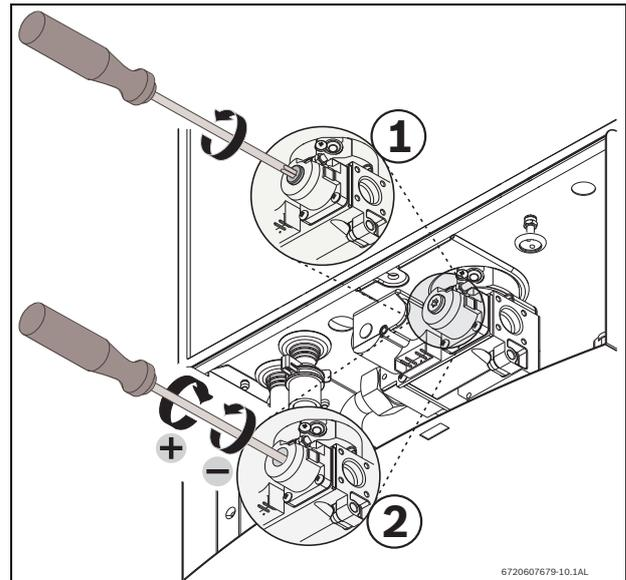

Fig. 18 Adjusting P2 CO₂ level
- ▶ Remove yellow painted #40 Torx cover from the front of the gas valve. (Fig. 18, pos.1) A plastic #40 Torx screw will be revealed.
- ▶ Turning the plastic #40 Torx screw counter clockwise will lower P2 CO₂ levels and clockwise will raise P2 CO₂ levels. (Fig. 18, pos. 2).